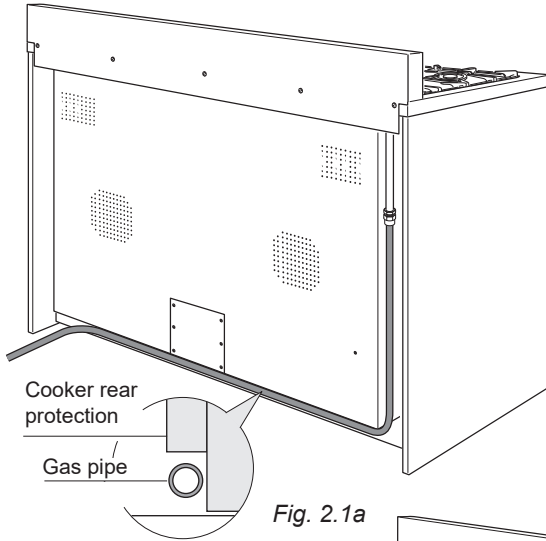
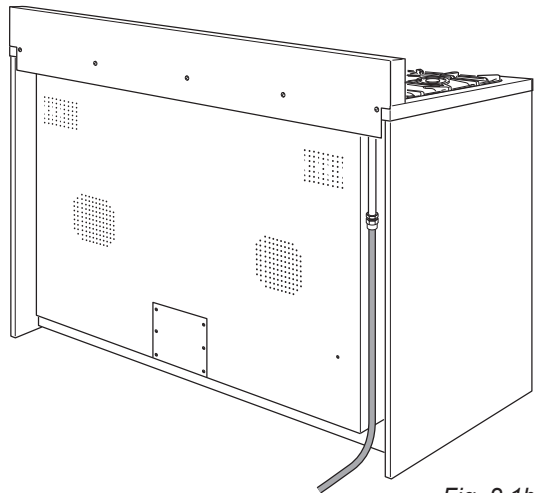

Fig. 2.1a
Fig. 2.1b
- The gas supply is connected at the rear of the cooker to the terminal of the gas inlet pipe (fig. 2.1a). The connection pipe must not cross the rear of the appliance (fig. 2.1b).